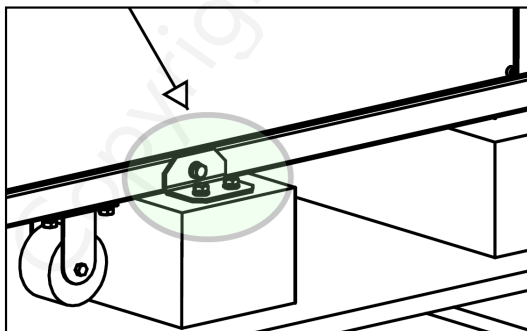

Figure 5
As shown in figure 5, the machine is mounted on a pallet by four (4) L shaped brackets. Remove the 4 brackets by loosening the bolts. Lift the machine by the forklift and remove the pallet.